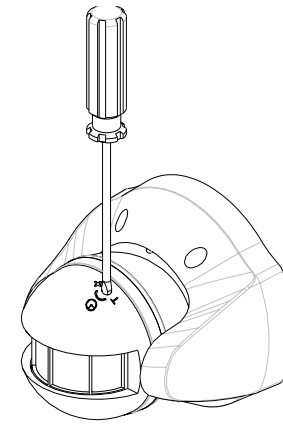

FIGURE 8
4. Time-off knob is designed to control the length of time that the appliances should be turned off. It is set from 5 seconds to 12 minutes. "T" means 5 seconds, while "+" is 12 minutes. (FIGURE 8)